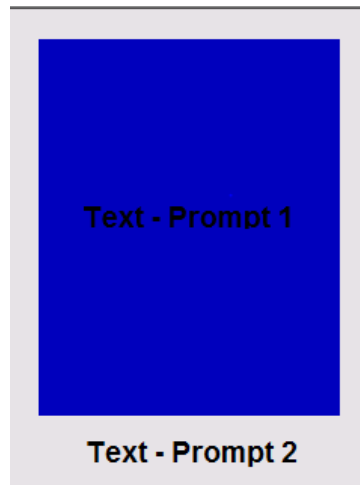

Figure 105 Window2
B. **Figure 105** shows Window2. In this window are two elements: